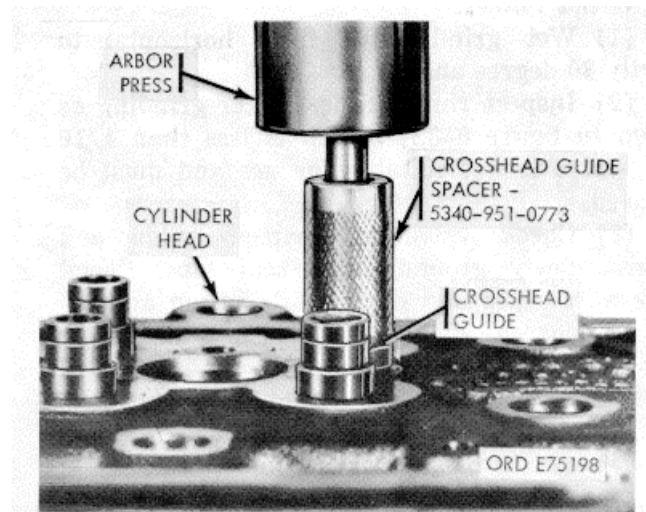

Figure 3-39. Crosshead guide installation.
(1) Install crosshead guides as shown in figure 3-39. Press in crosshead guide to 2.090/2.110 inches above head surface with guide spacer (47, fig. B-28).